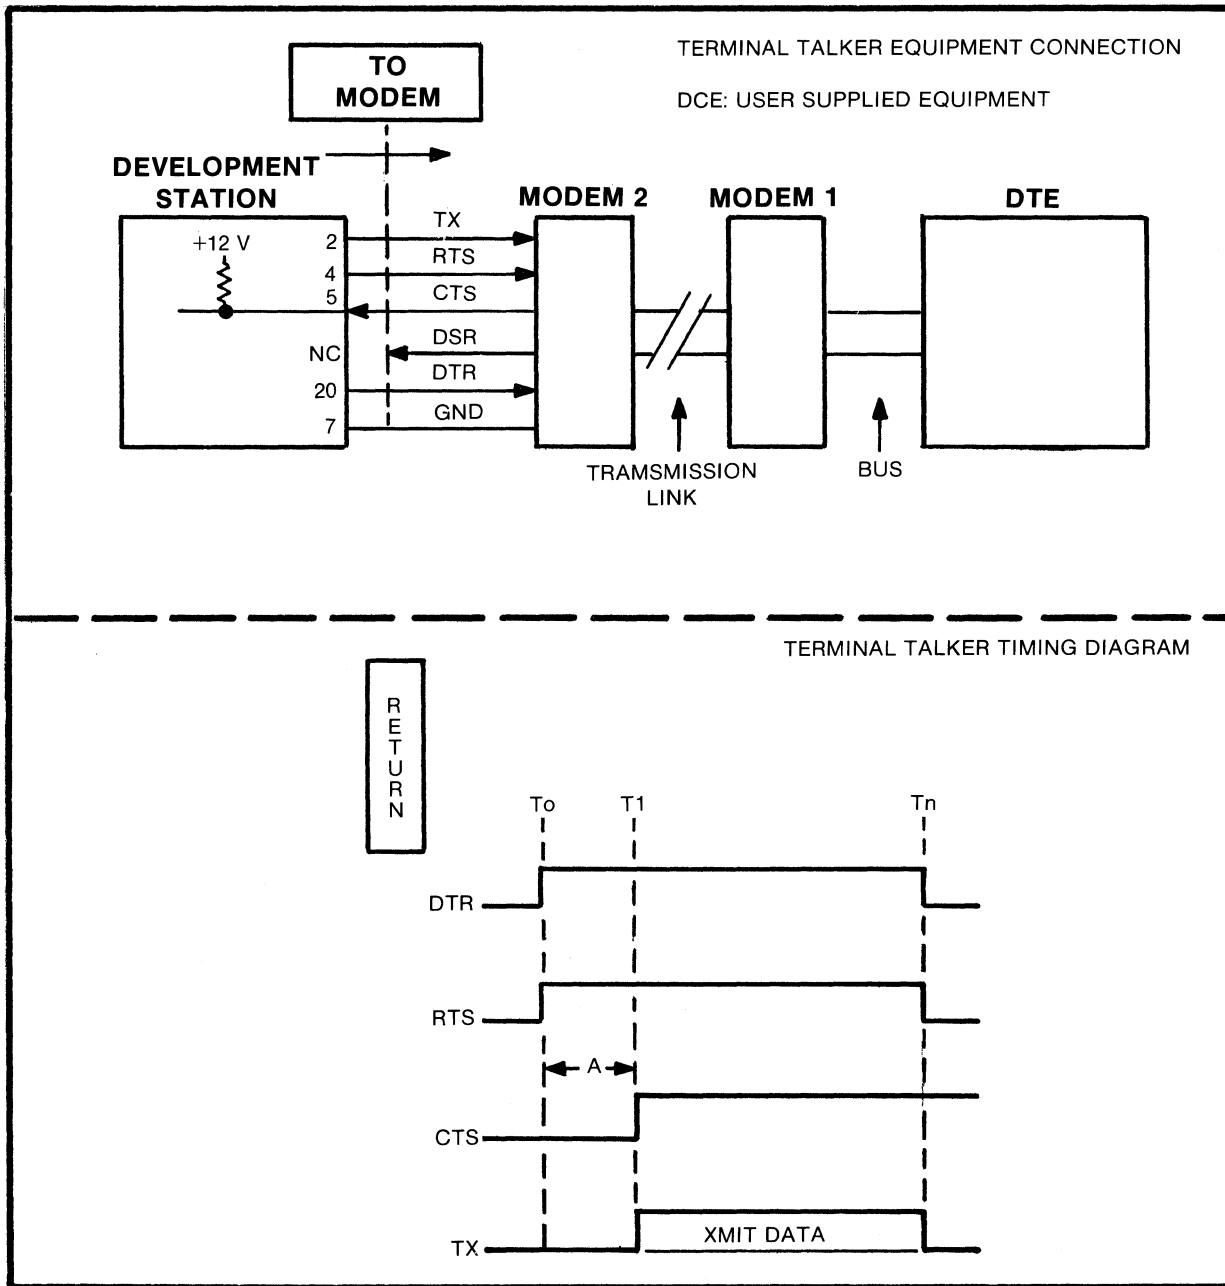

Figure 8-7. Terminal as Talker
8-88. Figures 8-7 through 8-10 illustrate the four functional situations that can exist:
1. Mainframe as "terminal talker" (figure 8-7)